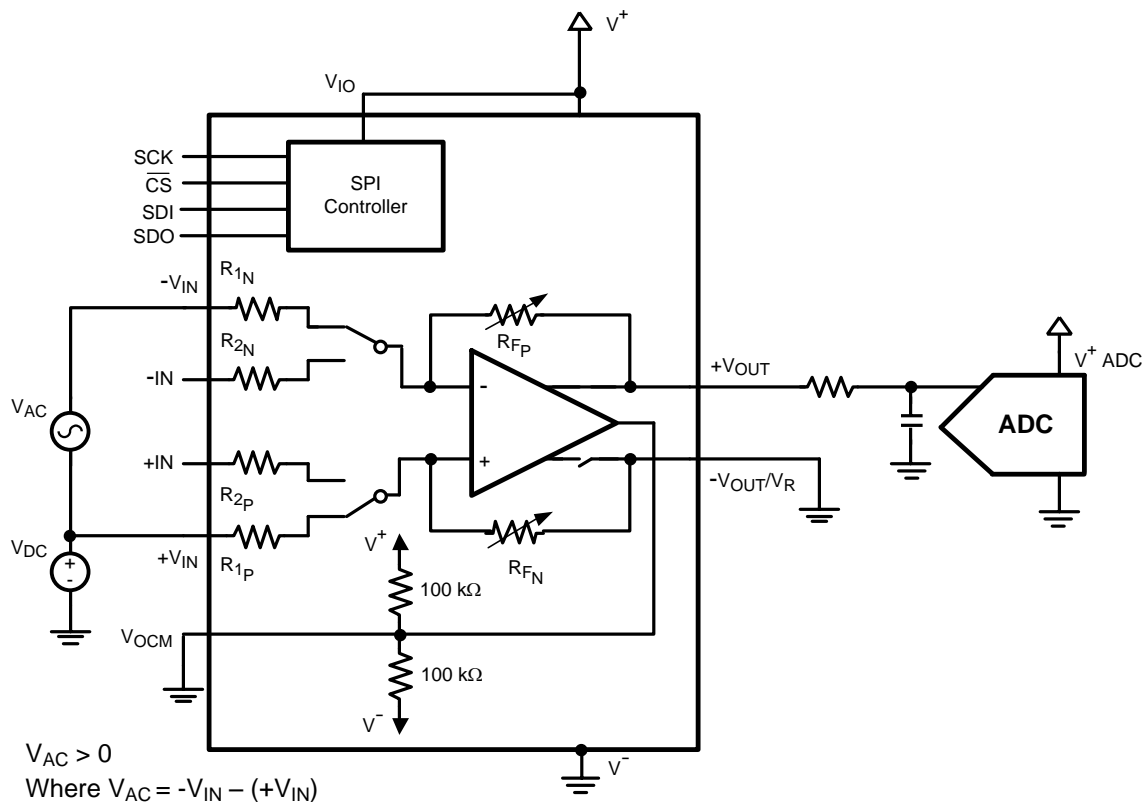

Figure 36. Unipolar Input Signal to Single-Ended ADC Interface
2. In the case of unipolar input signal the non inverting output will be connected to ground (Figure 36).